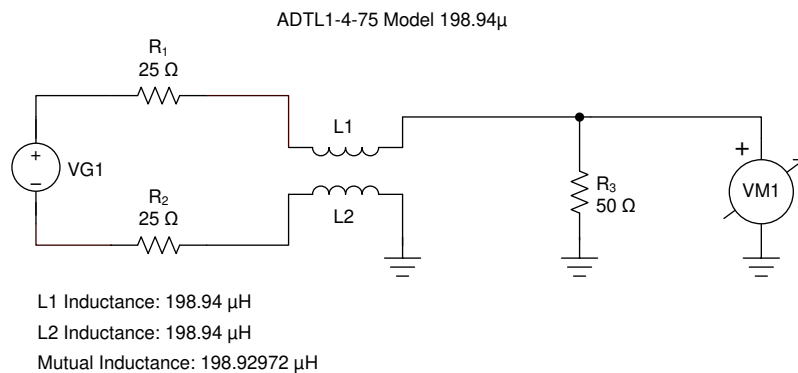
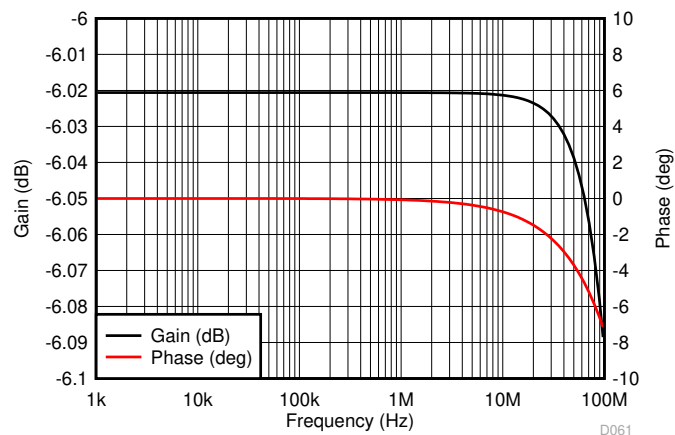

Figure 8-2. Output Measurement Balun Simulation Circuit in TINA-TI™
Figure 8-3. Output Measurement Balun Flatness Test
- In the pass band for the output balun, the 50- Ω load of the network analyzer reflects in parallel with the 52.3- Ω shunt termination, R_M . These elements combine to show a differential 1-k Ω load at the output pins of the THS4561. The source impedance presented to the balun is a differential 50- Ω source. Figure 8-2 and Figure 8-3 show the TINA-TI™ model (available as a TINA-TI™ simulation file) and resulting response flatness for this relatively low-frequency balun providing 0.1-dB flatness through 100 MHz.